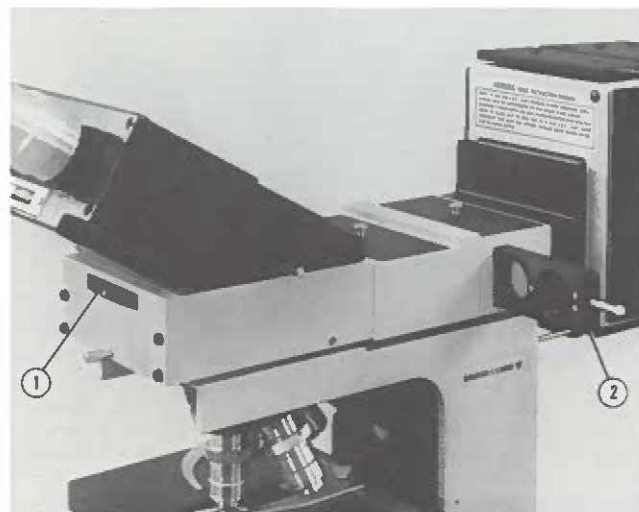

FIGURE 5-4 TURRET AND SLIDER ON INCIDENT-FLUORESCENCE ILLUMINATOR
5.2 Dichroic/Barrier Turret The heart of the incident-fluorescence illuminator is the turret at the front of the unit which permits quick and easy selection of dichroic reflector/barrier filter combinations appropriate to the fluorescence technique being used. Dichroics are multi-layer films deposited on glass substrates and are highly efficient in their reflection/transmission characteristics with regard to wavelength. In this instance, the dichroics have been chosen for high reflection of a short wavelength and high transmission of a longer wavelength. The barrier filter associated with a given dichroic reflector filters out the residual unwanted wavelengths which the dichroic might transmit. The turret has four indexed positions—three dichroic reflector/barrier combinations and one open aperture to permit the use of transmitted light techniques without removing the unit. The turret is operated by a knurled wheel. Colored raised dots identify the turret positions (Figure 5-4). The position in the light path can immediately be identified by sight or by touch in a darkened room.
5.3 Exciter Filters The exciter filter slider (Figure 5-4) has colored dots to identify the exciter filter which is in use. For optimum performance, the number of dots on the exciter filter slider should correspond with the number of dots on the dichroic reflector/barrier filter turret. If two sets of dots on the exciter filter slider are exposed, read the dots closest to the side of the incident-fluorescence illuminator. Figure 5-4 shows the slider and the dichroic reflector/barrier filter turret set at the one-dot position.